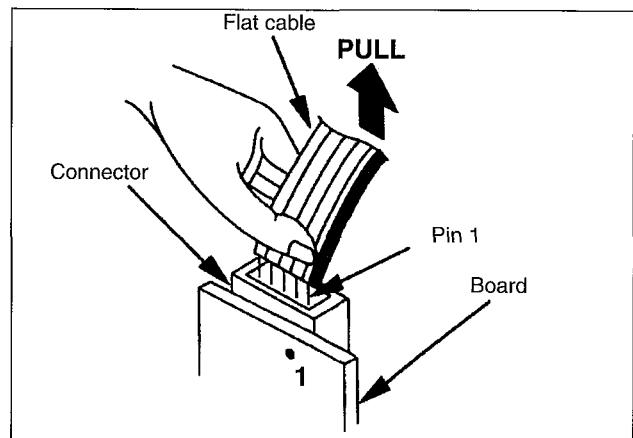

Fig. 2-14
Pull out the flat cable, holding it securely to avoid damaging individual wires (see fig 2-14).
1. Adjust the position of the flat cable so that the lines on the flat cable align with the pins X of the trap connector (see fig 2-14)